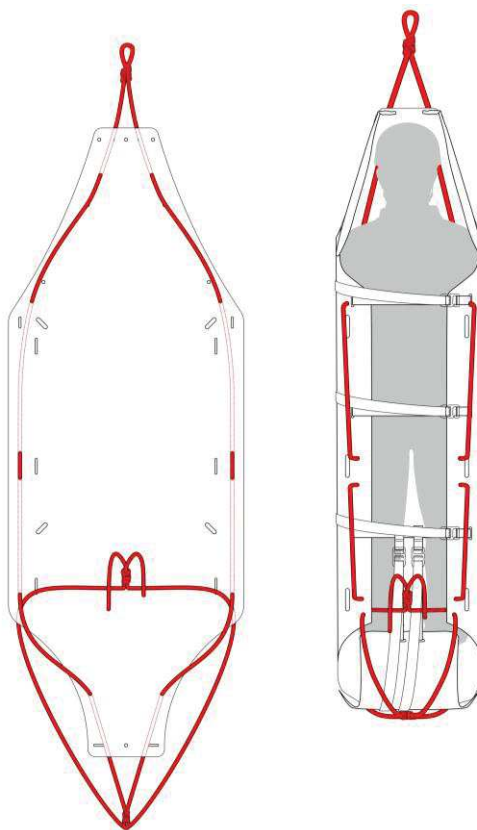

Fig. 15
c) vertical lowering or lifting: insert the rope (H) in the holes A8 of the support surface (fig. 15).